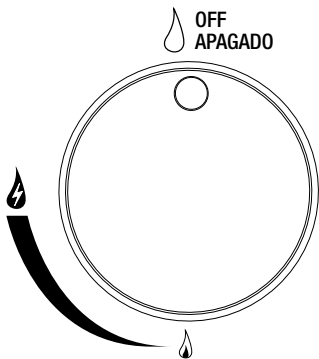

Figure 2
- Control knob must be in the "OFF" position (Figure 2).
- Make sure control knobs are in the "OFF" position (Figure 2).